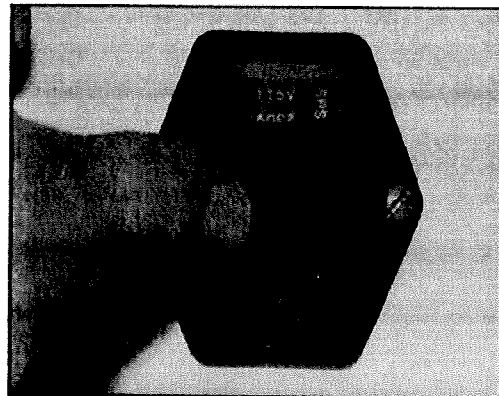

Figure 5.6
- Gently lift up and snap the fuse holder cover in place (**Figure 5.6**).